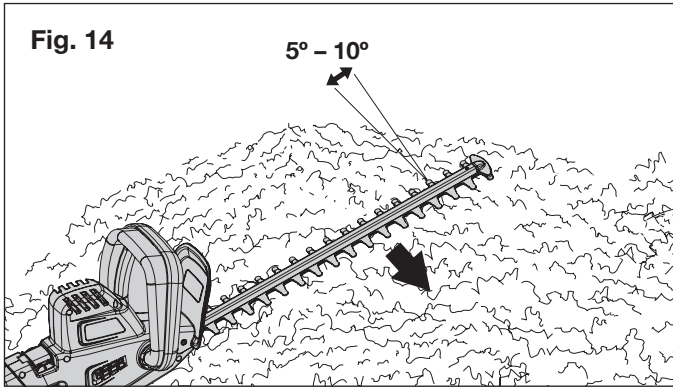

Fig. 14
2. To perform a horizontal cut, hold the hedge trimmer with the blade tilted 5-10 degrees to your cutting object; this makes the operation easier and ensures a better cut (Fig. 14).